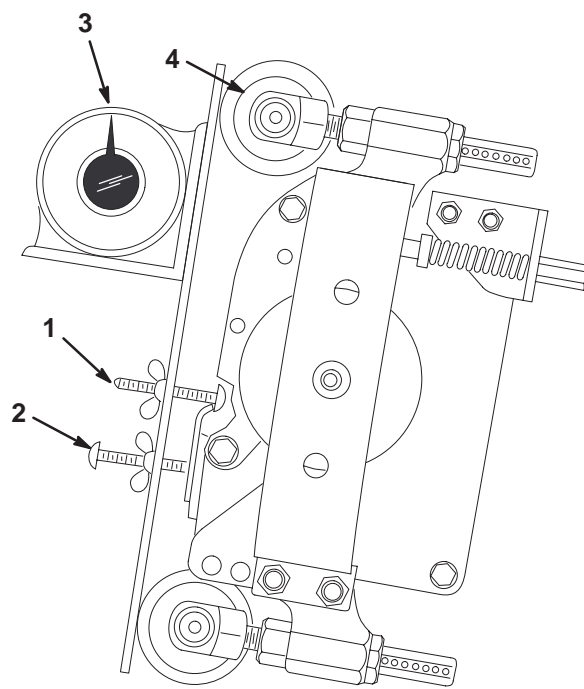

Figure 21
3. Place the gauge bar across the front and rear rollers. The first screw head needs to fit snugly over the edge of the bedknife while the gauge bar contacts the rollers (Fig. 21).
5. Place an angle indicator on the gauge bar and record the gauge bar angle (Fig. 21).